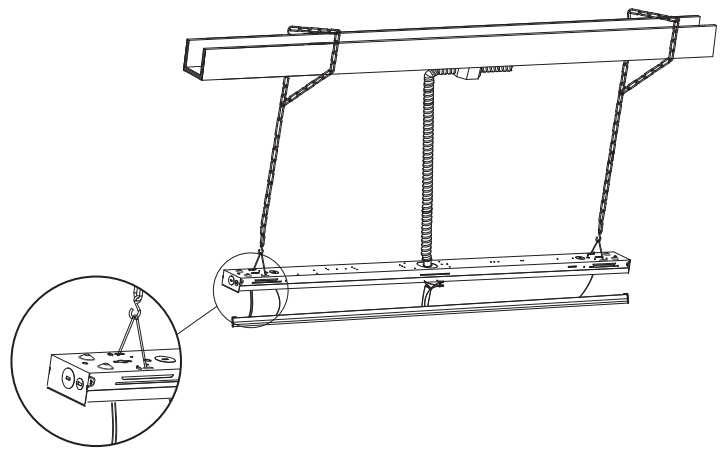

Figure 2
2. Attach the V-hook to the fixture and connect the chains to the V-hooks to hang the fixture. Fix the Flexible Metallic Conduit to any of the knockout holes at back of the fixture (Figure 2). Make appropriate electrical connections by referring to the General Wiring Diagram.